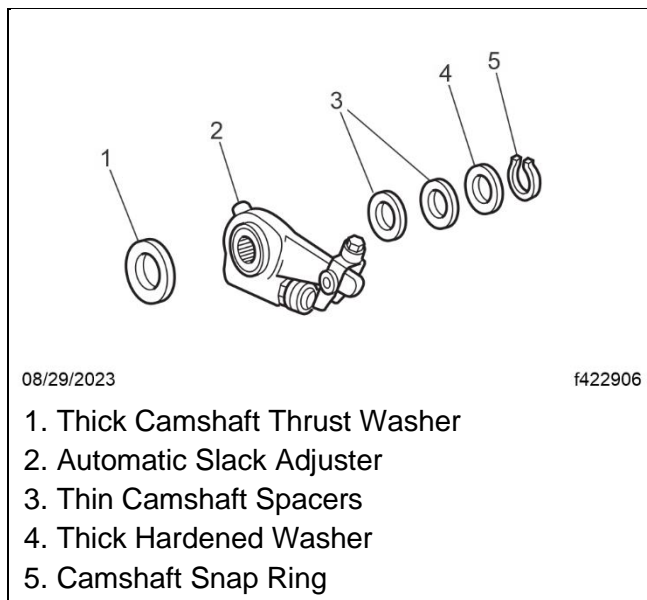

Fig. 2, Automatic Slack Adjuster Assembly
5. Install the thick washer next to the snap ring. See Fig. 2.